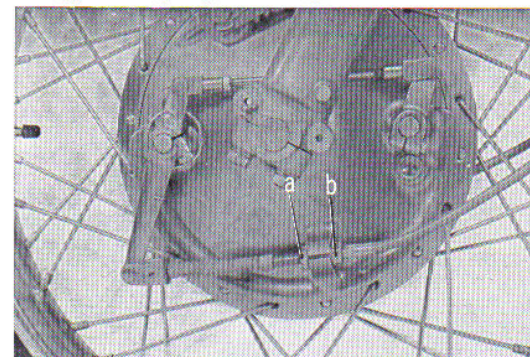

Fig. 4.86 Adjusting front brake lever play
- ① Front brake arm rod ② Speedometer gear box
③ Installing range ④ Front brake cable
7. Connect the front brake cable to the brake arm and adjust the free travel. The specified free travel is 15~30mm (0.6~1.2in). Make the adjustment with nuts "a" and "b". (Fig. 4.86)